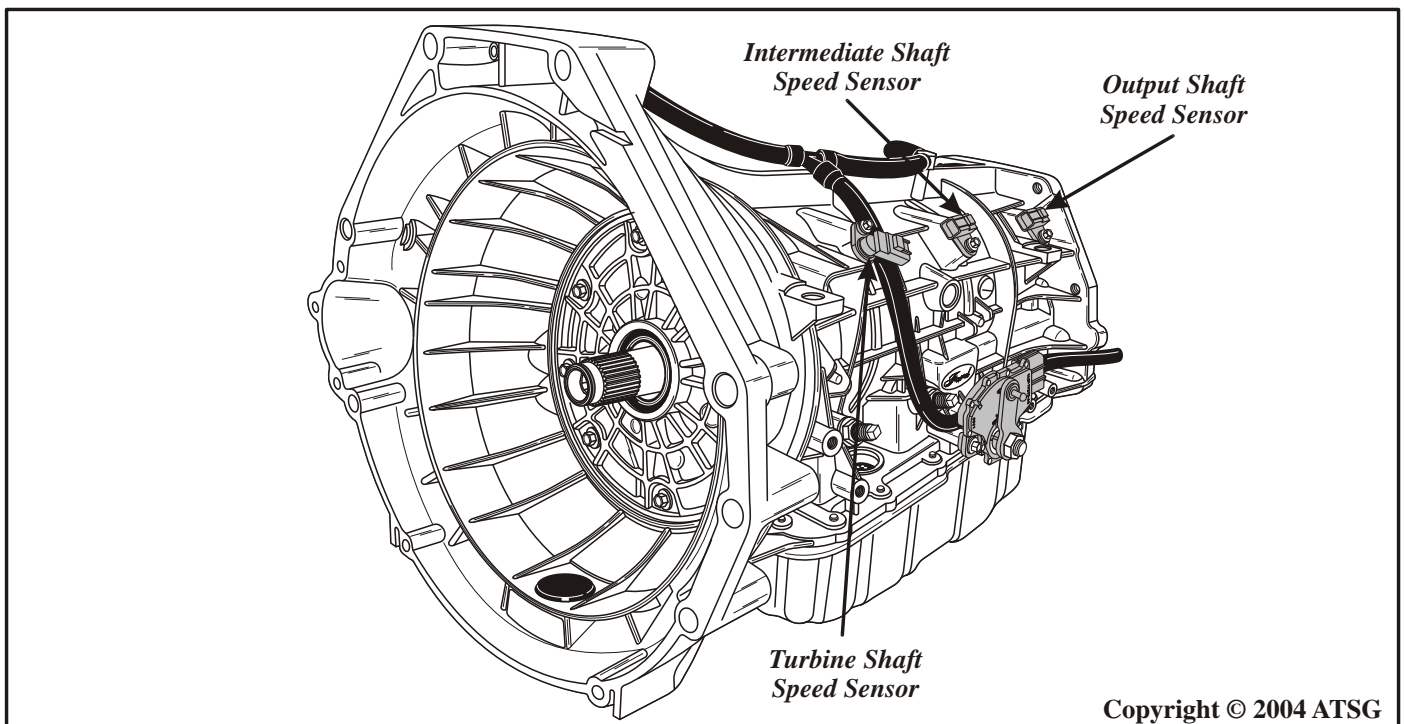

Figure 183
5. Install a new "O" ring on turbine speed sensor and install into case in the location, as shown in Figure 183.
6. Install a new "O" ring on the intermediate shaft speed sensor and install into case in the location shown in Figure 183.
7. Install a new "O" ring on output shaft speed sensor and install in case in the location shown in Figure 183.